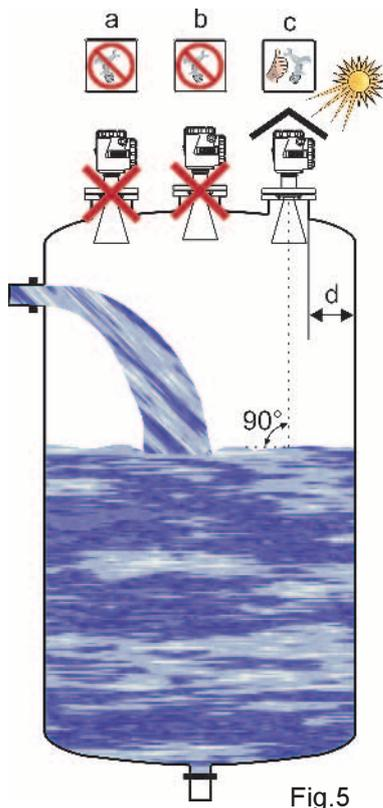

Fig.5
- Use a protection cover in order to protect the transmitter from direct sun or rain (fig.5/c).
- Do not install the transmitter above the fill stream (fig.5/a)
- In tanks with convex roof, in order to avoid possible interferences, do not install the transmitter in the centre (fig.5/b).
- The transmitter must be installed perpendicularly to the the product surface (fig.5)
Avoid this solution in case of convex roof (fig.5 and 7)